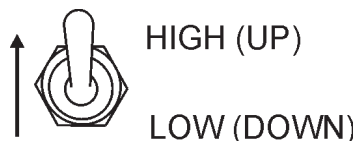

Figure 69. Engine Speed Switch (High)
29. Set the engine speed switch (Figure 69) to the "HIGH" position.